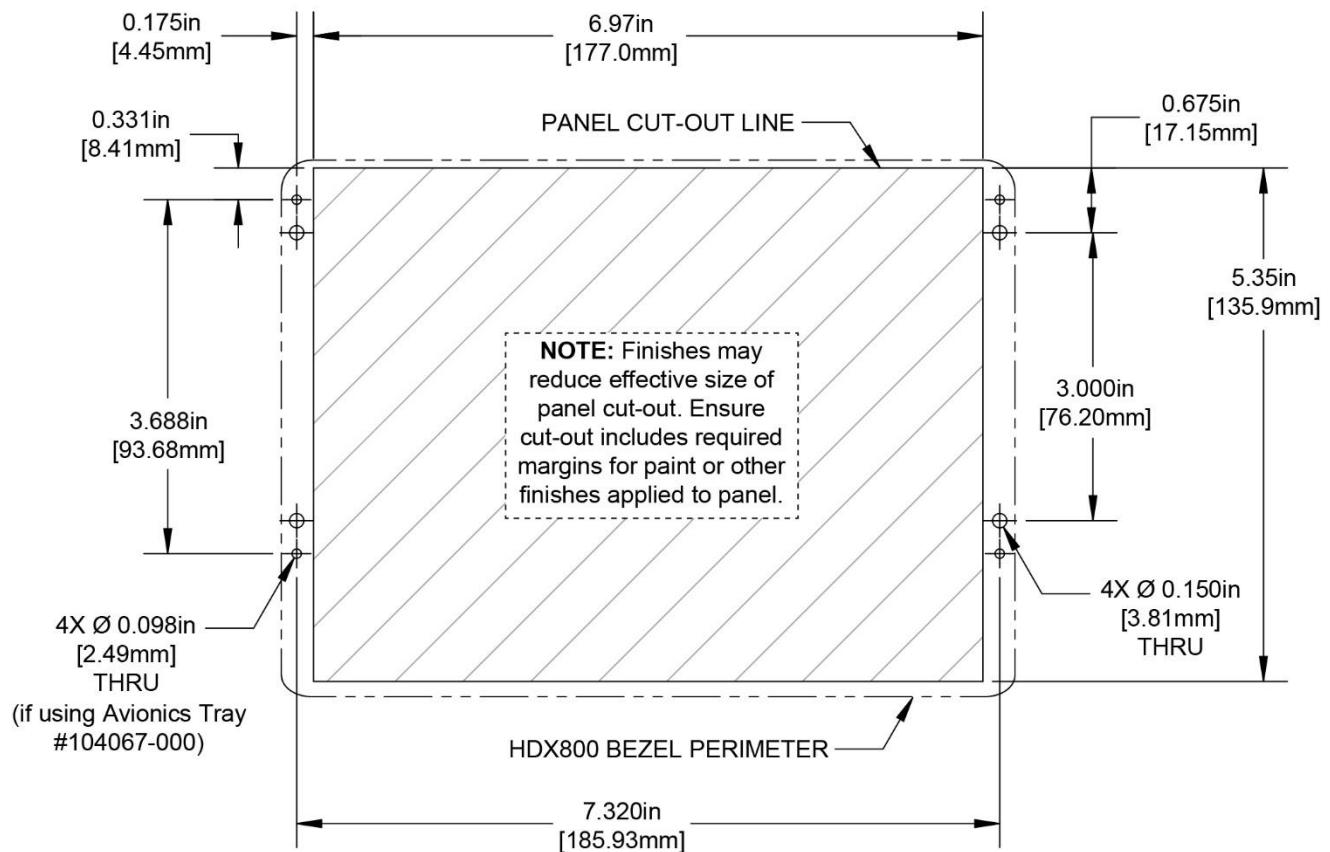

Figure 7 – Panel Cut-out Dimensions for SV-HDX800 Display
- 7" Avionics Tray for SV-HDX800 Display – Figure 6 and Figure 7.